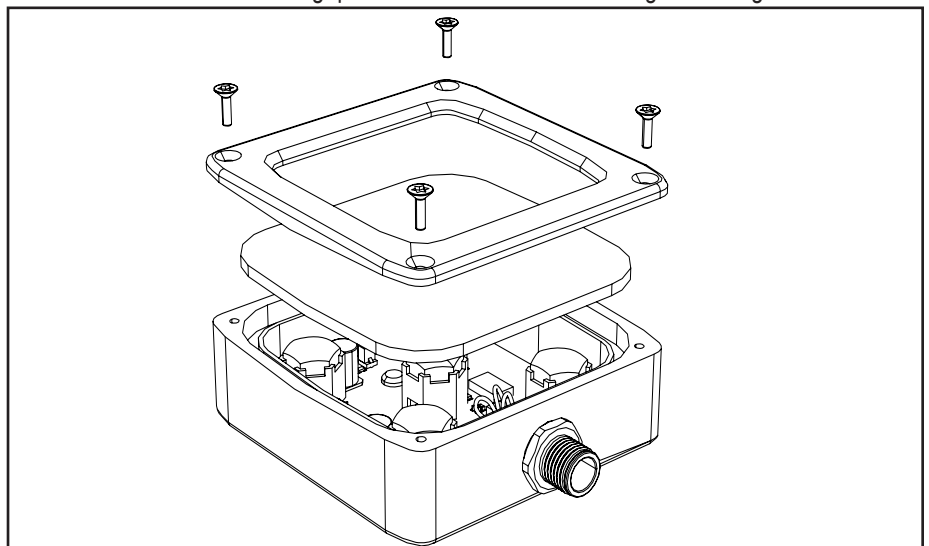

Figure 1. Installing the replacement window on the light
1. Remove all the screws and the bezel on the light (Figure 1).